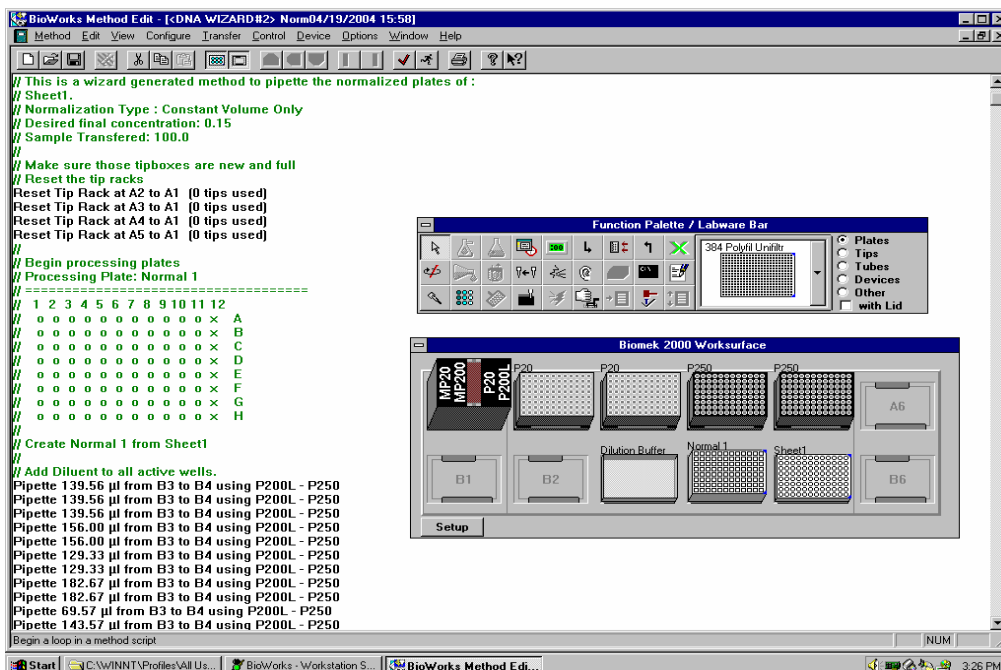

Figure 16. Normalization method
- 5.5.13 Print the Plate Map sheet, then exit the Normalization Wizard program. Double click on the Edit button in the BioWorks folder to open the method list under the edit function. Locate and select the Normalization method generated (e.g., Norm04/19/2004 15:58) as represented in the Figure 16.
5.5.14 Use the deck layout (e.g., in Figure 16) as a guide to place the labware onto the robot deck.